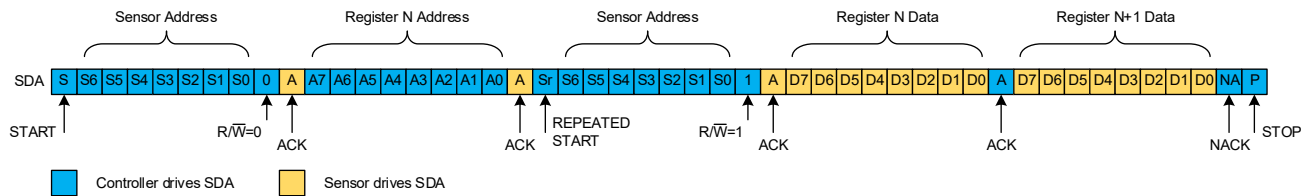

Figure 33: I²C Read Burst
- To receive the value of the next register, the controller can send an ACK bit and keep sending clock pulses on the SCL line (Figure 33). This operation can be repeated multiple times and is only limited by the number of available registers.